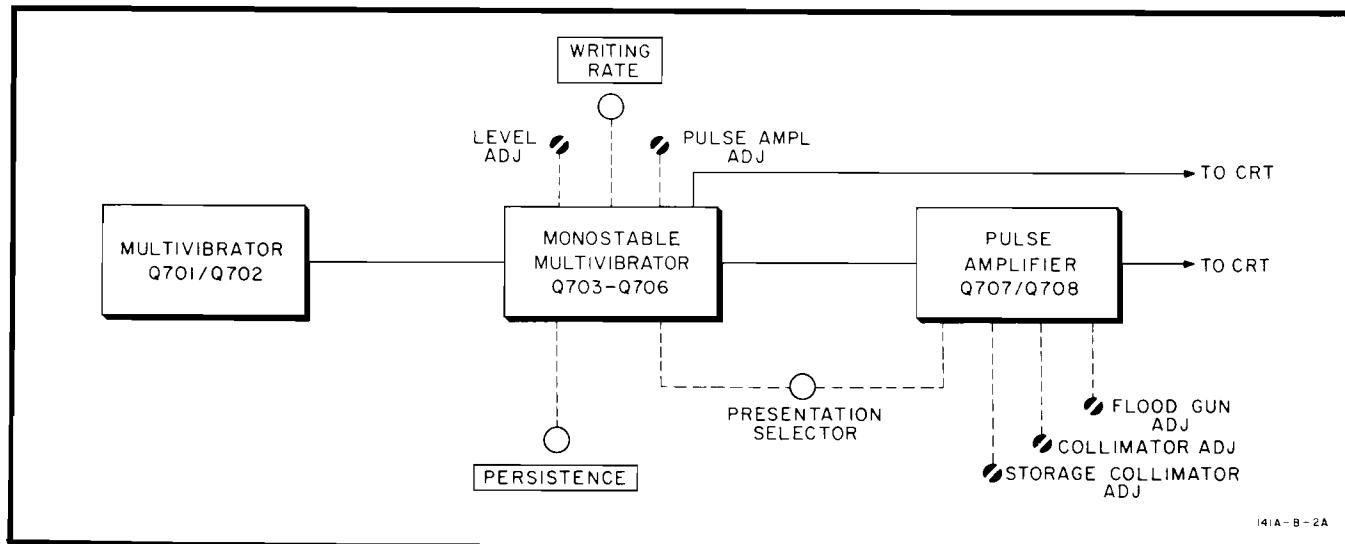

Figure 4-4. Pulse Circuit Block Diagram
**4-35.** Figure 4-4 is a simplified block diagram of the Pulse Circuit. A free running Multivibrator triggers a Monostable Multivibrator. The pulse width of the Monostable Multivibrator is varied by the setting of the PERSISTENCE control. The output of the Monostable Multivibrator is applied to the CRT storage mesh in the WRITE mode to control the display persistence. In STORE, the Monostable Multivibrator output is amplified and applied to the CRT collimator.